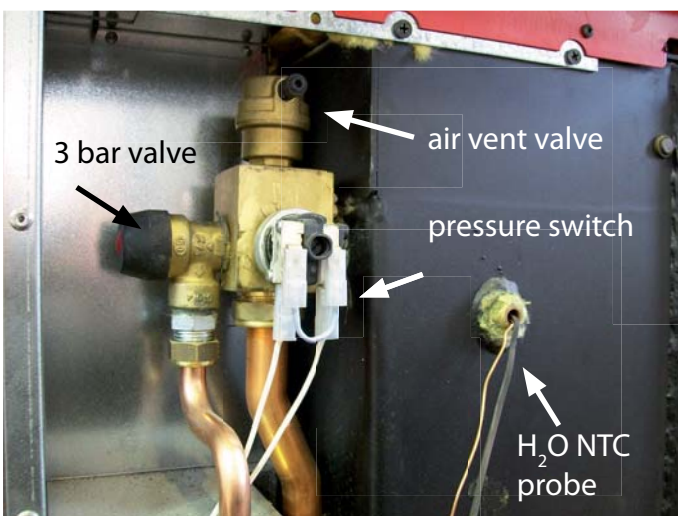

figure 4.1
- ❖ be equipped with a fuel block thermostat (figure 4.1, 4.3), or